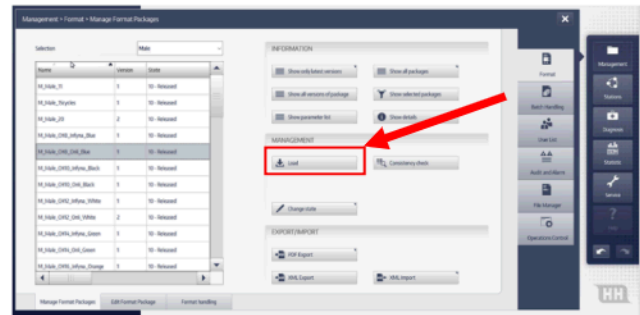

Figure 10
3. Press the load button (Figure 10)